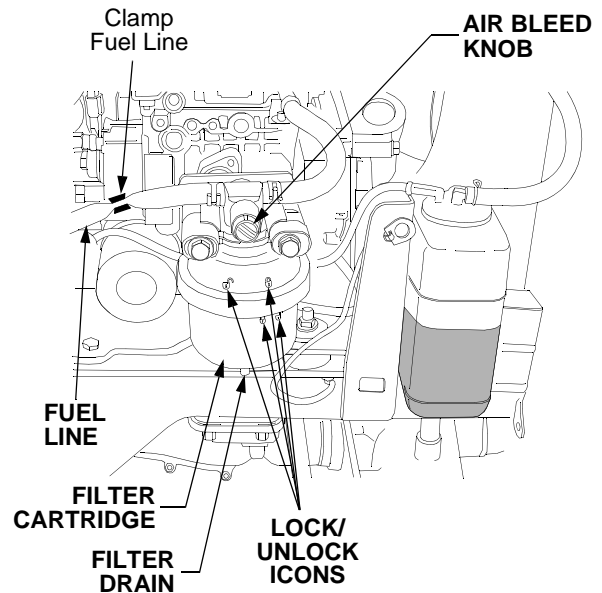

Figure 57
- Slowly turn the air bleed knob counterclockwise until fuel begins to seep out around the bleed knob. Turn the air bleed knob clockwise to close. Refer to Figure 57.
- Clamp the fuel line just to the rear of the fuel filter. See Figure 57.
- Turn the filter approximately 1/4 turn counterclockwise (as viewed from bottom) to align the unlock icons. Refer to Figure 57.